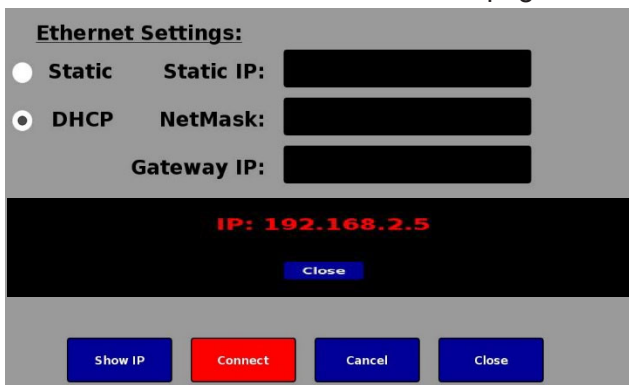

FIGURE 33
- 1) DHCP is an automatic connection; Press the DHCP function, then press connect (Figure 33). The connect button will turn red for up to 30 sec. and once connected will be blue again. Press Show IP to verify you are connected (Figure 33).